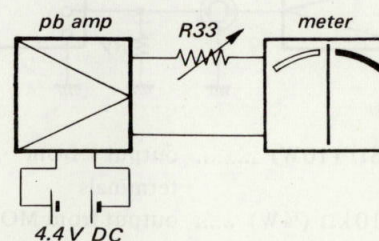

Fig. 8-5.
8-3. Battery Indicator Calibration (Fig. 8-5)
1. Apply power voltage of 4.4V DC across the unit as shown in Fig. 8-5.